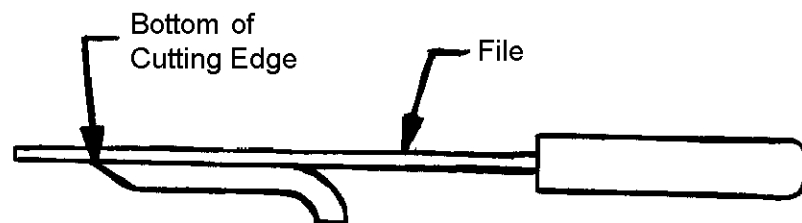

FIG. 5
E. When the blade has been sharpened, stroke a flat file across the bottom of the cutting edge to remove any burr buildup. See FIG. 5.